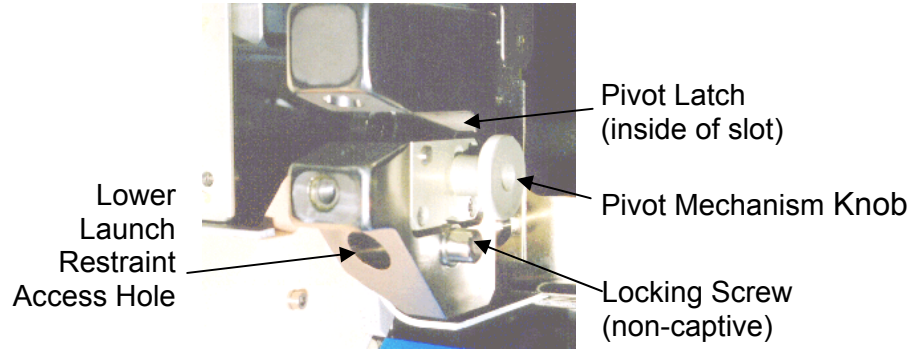

Figure 7.- Lower Launch Restraint, Left Side
12.2 Loosen Mechanism Knobs one turn so they are free to move. Refer to Figure 7.